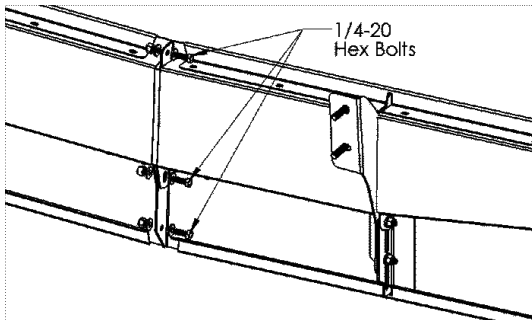

FIGURE 11 – Center bolts, shown from rear view
6. Install (3) 1/4-20 hex head bolts through center flanges of visor skins. Use a flat washer on each side, and secure with locknut. (FIGURE 11).